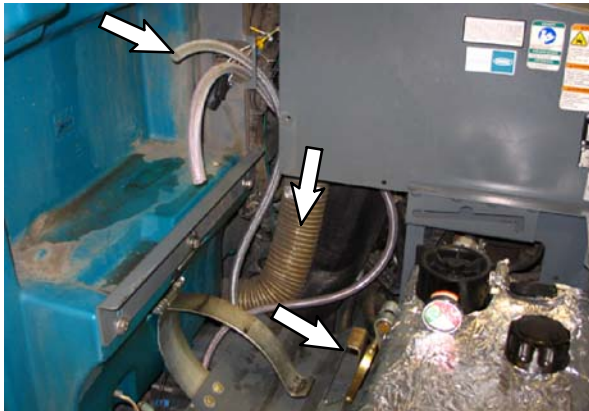
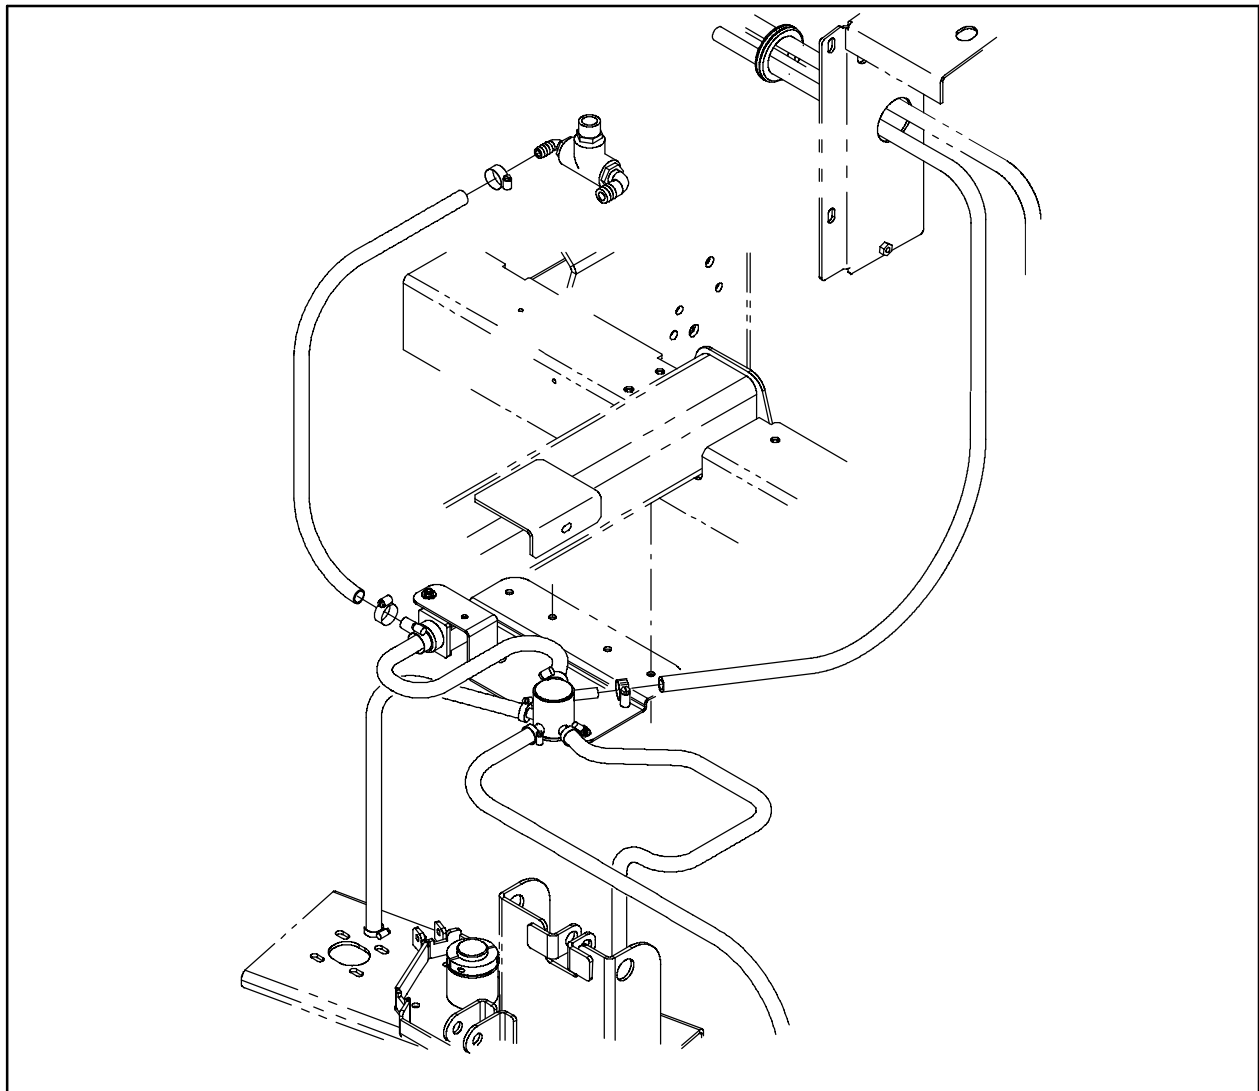

FIG. 2
FIG. 3 - Machines Without Optional Side Brush
5. **Machines Without Side Brush Option Only:** Route the 60" PVC hose from the operator compartment, down along the frame center beam, and to the scrub head. Refer to Fig. 2 and Fig. 3.